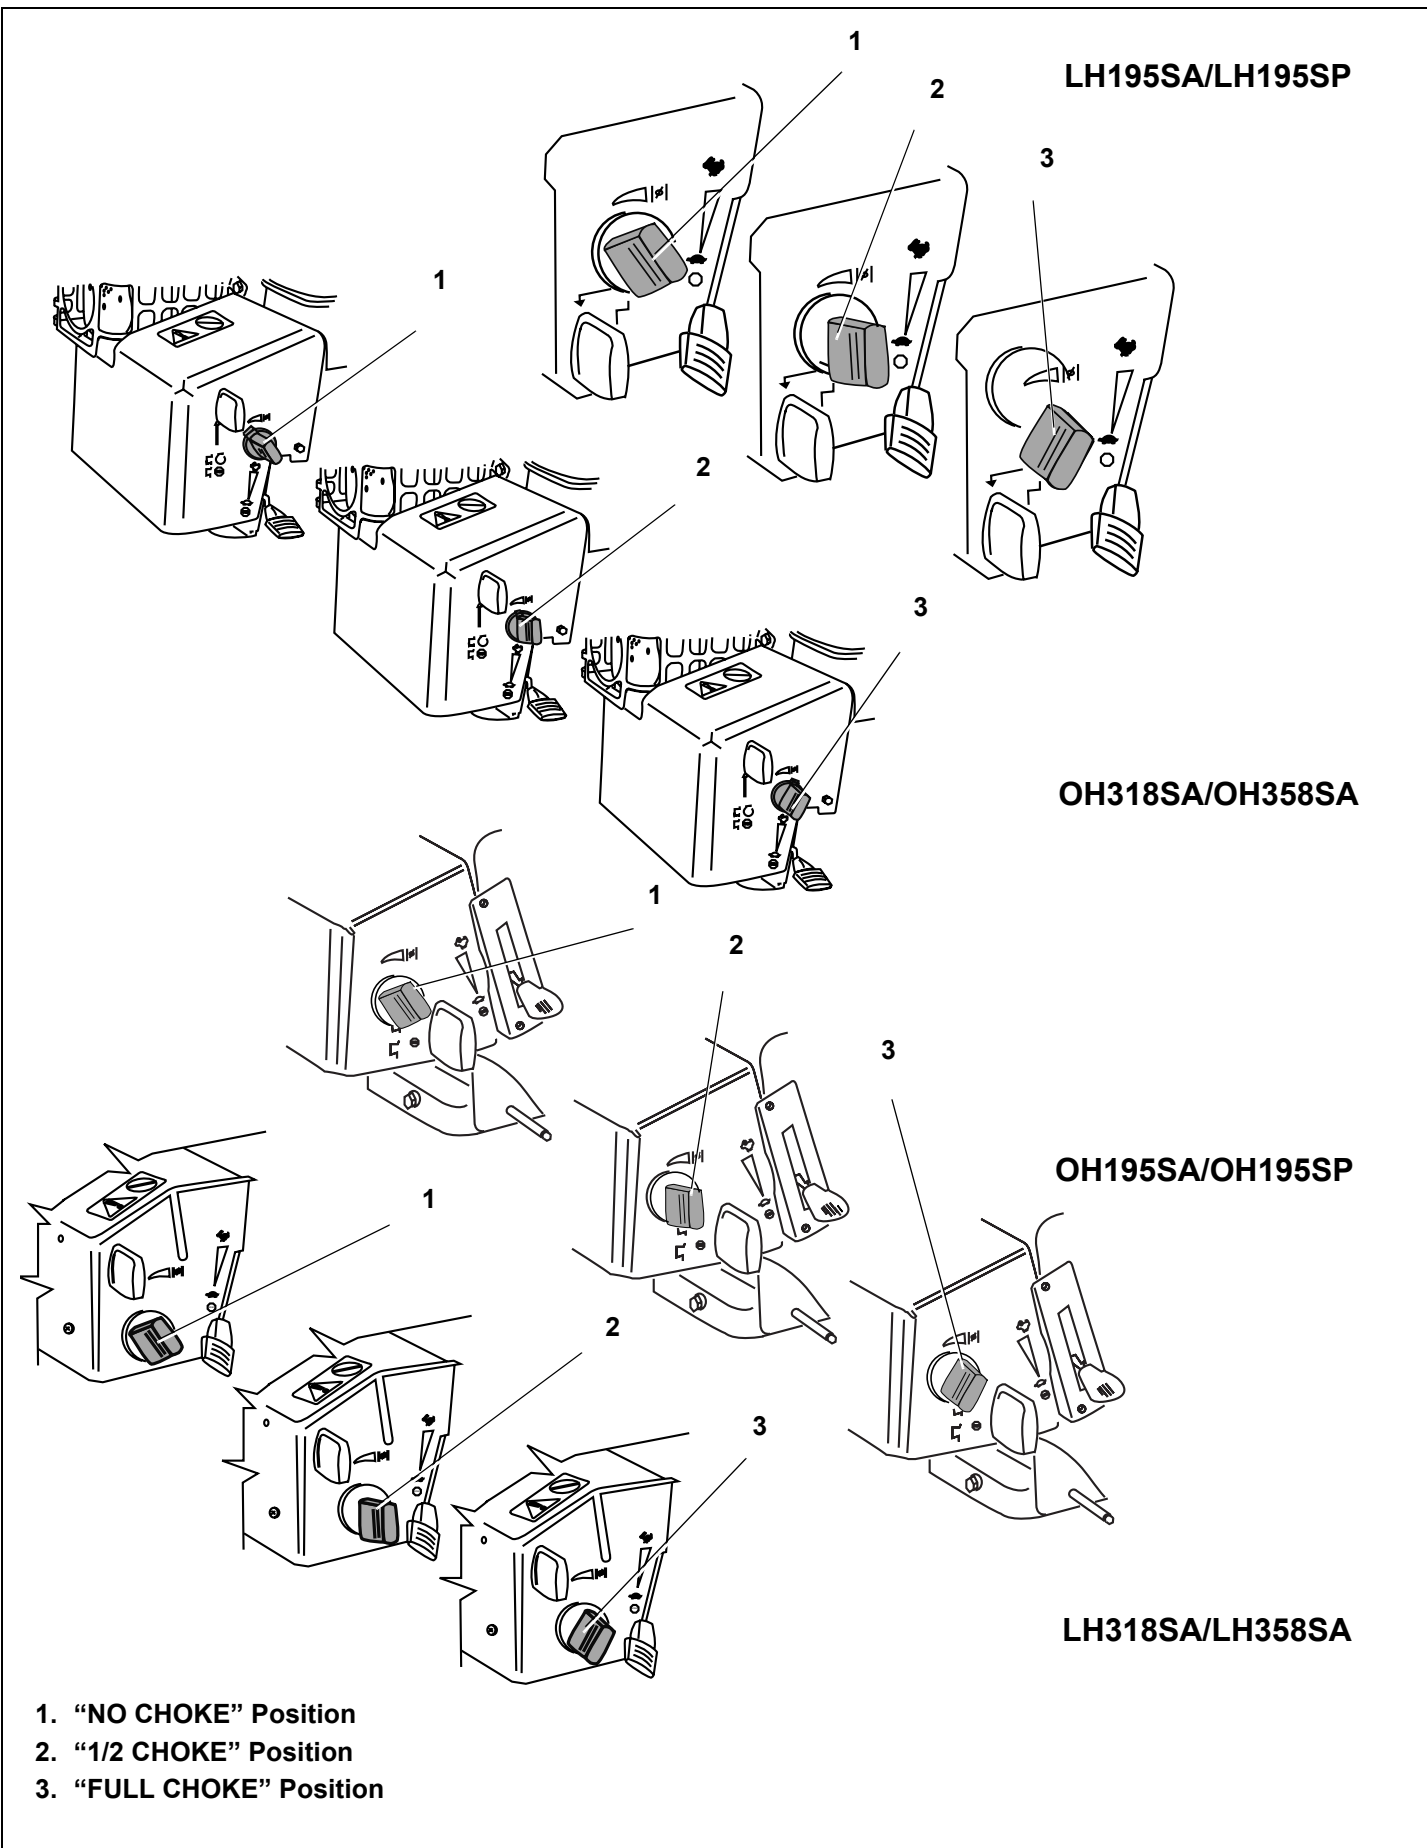

Figure 24. Choke Control Positions
6. Set choke control to “FULL CHOKE” position (see equipment manufacturer’s instructions). See Figure 24 on page 12. Afterward, continue reading instructions below.
- b. Momentarily move choke control to “1/2 CHOKE” position until engine runs smoothly. See Figure 24 on page 12. Afterward, continue reading instructions below.
11. If engine fires but does not continue to run, move choke control to “NO CHOKE” position and start engine. See Figure 24 on page 12. Afterward, continue reading instructions.
4. Set choke control to “FULL CHOKE” position (see equipment manufacturer’s instructions). See Figure 24 on page 12. Afterward, continue reading instructions below.
If restarting a warm engine after a short shutdown, move engine speed control to “FAST” position and move choke control to “NO CHOKE” position. See Figures 24, 26 and 27 starting on page 12. Afterward, continue reading instructions below.
- a. Momentarily move choke control to "1/2 CHOKE" position until engine runs smoothly. See Figure 24 on page 12. Afterward, continue reading instructions below.
9. If engine fires but does not continue to run, move choke control to "NO CHOKE" position and start engine. See Figure 24 on page 12. Afterward, continue reading instructions below.
3. Move engine choke back and forth several times and leave in the "FULL CHOKE" position. See Figure 24 on page 12. Afterward, continue reading instructions below.